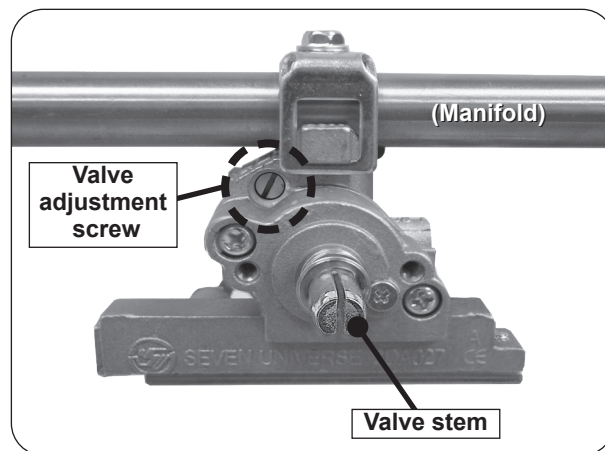

Fig. 37-1 Valve adjustment screw location
5. Locate the FLATHEAD adjustment screw found above the valve stem and below the manifold (see Fig. 37-1).